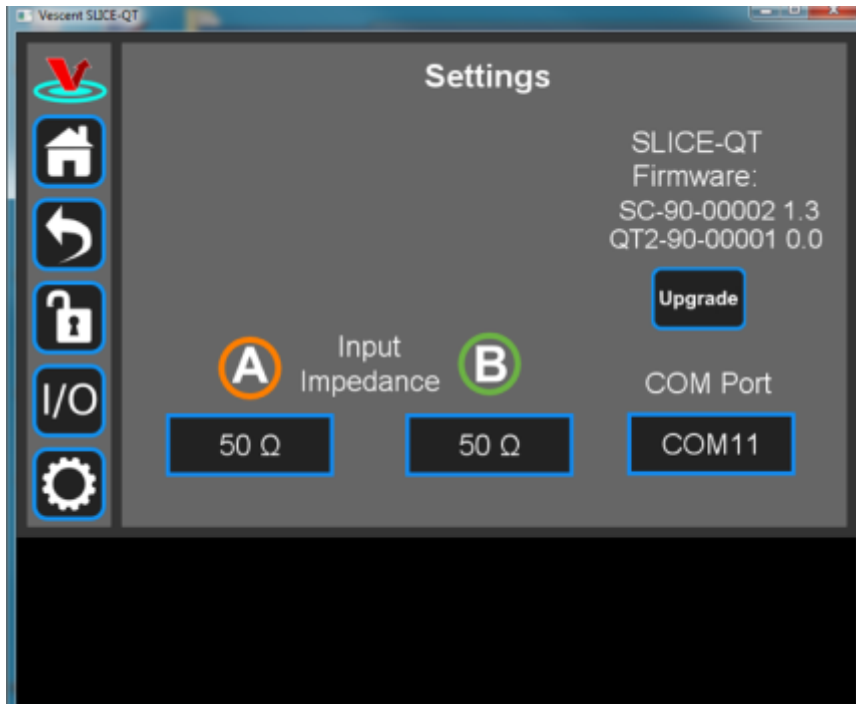

Fig. 40: Ready to upgrade
8. Select the COM port identified in the step above (usually the last COM port in the list; COM11 in this example). The window in figure 40 should appear if the connection is successful.